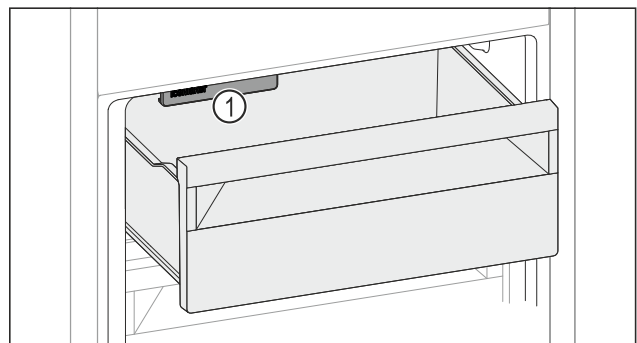

Fig. 143
► Pay attention to the IceMaker Fig. 143 (1).